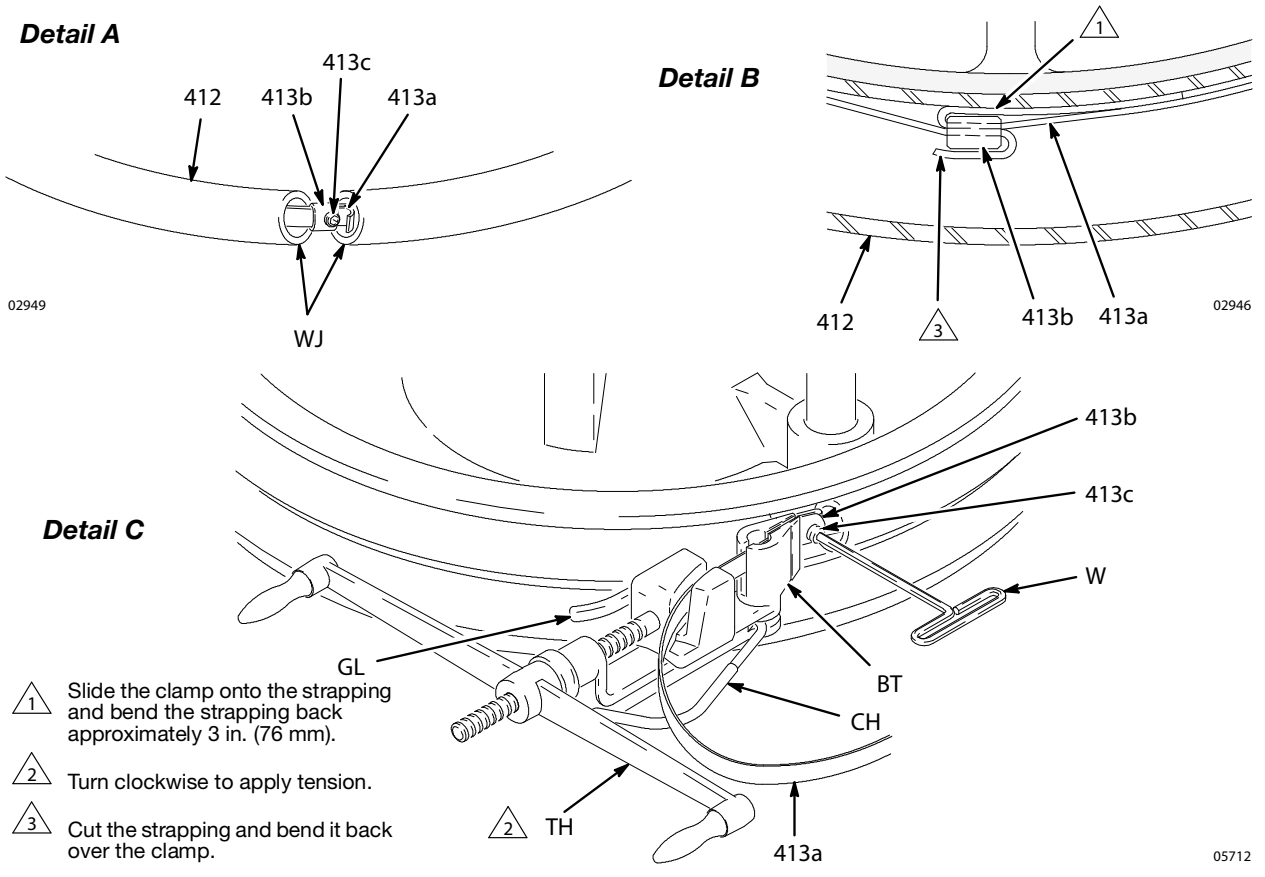

FIG. 29
4. Separate the wiper joint (WJ) and bend back the strapping (413a) covering the clamp setscrew (413c). See Detail A of FIG. 29. Loosen the setscrew, pull the end of the strapping through the clamp (413b) and remove the wiper.
5. Slide the strapping (413a) through the new wiper (412). Slide the clamp (413b) onto the new strapping and bend the strapping back approximately 3 in. (76 mm). Insert the strapping through the clamp a second time. See Detail B of FIG. 29.
6. Install the wipers on the Follower Plate (D). Position the wipers so that the wiper joints (WJ) are 180° apart.
NOTE: You will need the special banding tool (BT) shown in Detail C of FIG. 29 to tighten the strapping. Order Part No. 168092 Banding Tool.
7. Grip the strapping (413a) with the bonding tool (BT) as shown. With your thumb on the gripper lever (GL), turn the tool handle (TH) clockwise to apply tension.